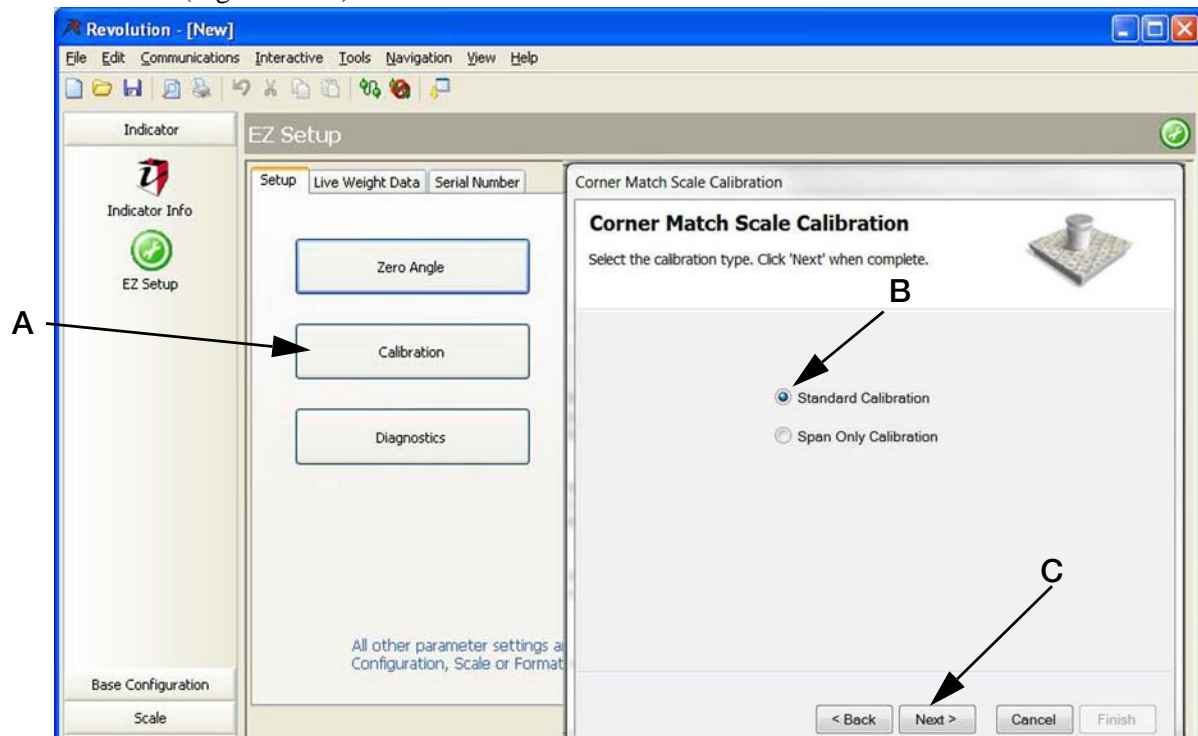

Figure 5-3. Enter Calibration
3. In set-up select **Calibration** (Figure 5-3 A).
4. Select **Standard Calibration** (Figure 5-3 B)
5. Press **Next** (Figure 5-3 C).